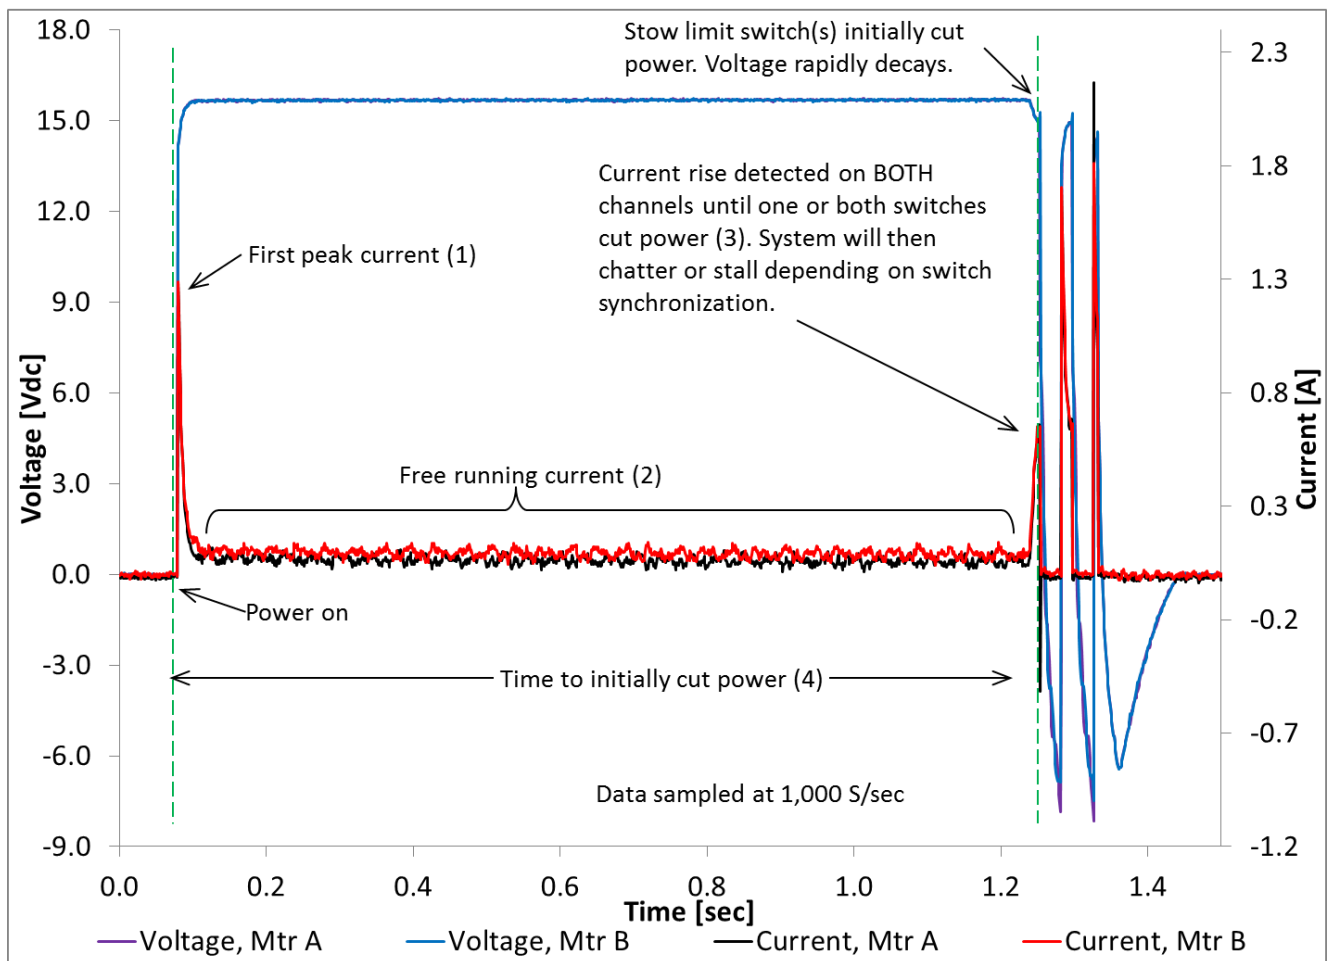

Figure 26: Typical set-for-flight voltage and current profiles at P = 1.0 Atm and T = +23 deg C
8.1.12	Figure 26 shows typical set-for-flight voltage and current profiles. Complete Table 2 to verify all parameters are within tolerance. Single data point exceedances are acceptable. Also, a slow sample rate may alias data. Do not filter data. Contact PSC if a discrepancy is found.